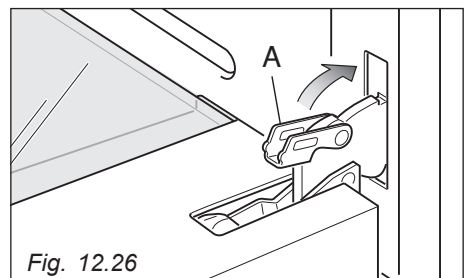

Fig. 12.26
- Open completely the oven door and close the lever "A" on the left and right hinges (fig. 12.26).